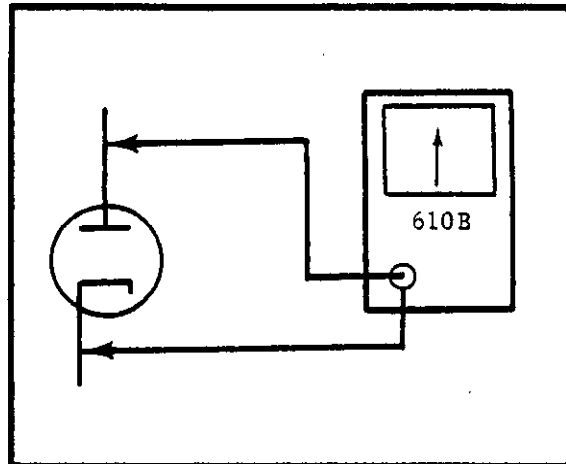

FIGURE 12. Measuring Diode Characteristics with Model 610B. Use the OHMS ranges of the Electrometer.
c. Measuring Diode Characteristics. The Model 610B can accurately measure diode characteristics in one simple step without using any other equipment. The circuit is shown in Figure 12. The measurements are made on the Model 610B OHMS ranges, selecting constant currents down to  $10^{-11}$  ampere in decade steps and reading the voltage drop across the diode. The characteristic curve can then be plotted in volts and amperes or volts and ohms. Read the voltage from the meter.